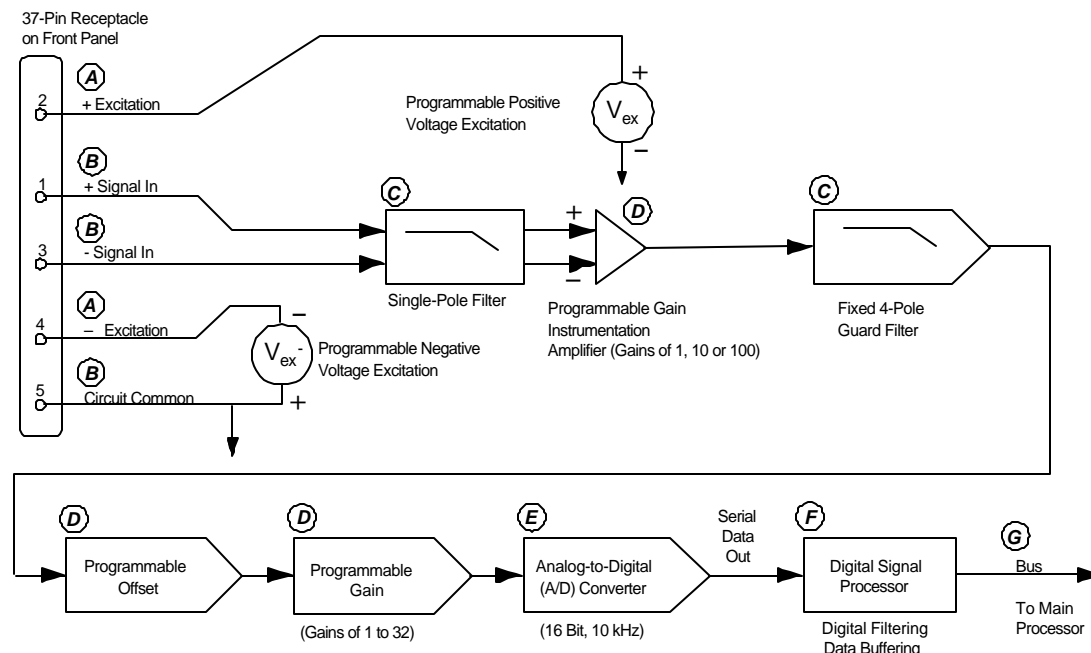

Figure 1-4: Low-Level Analog Signal Flow
- b. 120Ω or 350Ω completion resistors are available (not in **Figure 1-4**).